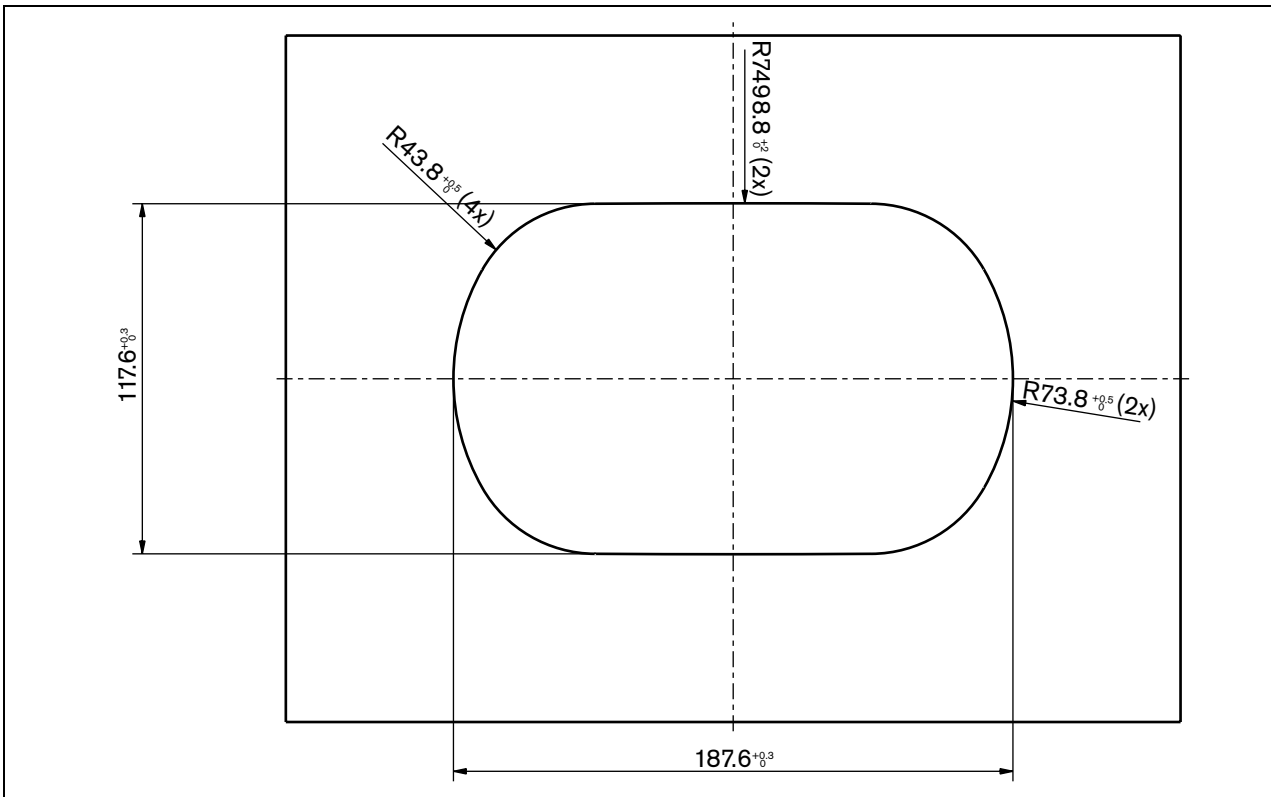

figure 14.15: Template (refer to the CD-ROM that is supplied with the system for a \*.dwg file)
- Use the template (refer to figure 14.15).